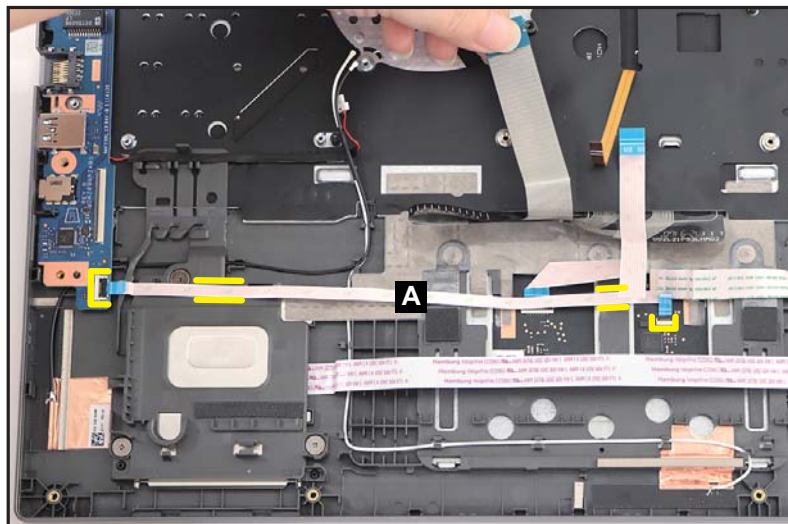

Figure 1-44. Touchpad Module Removal
1. Disconnect the fingerprint FFC (A) from the USB board and touchpad module connectors. Then carefully detach the FFC from its underneath adhesive (highlighted by the yellow lines) and remove the fingerprint FFC (Figure 1-44).